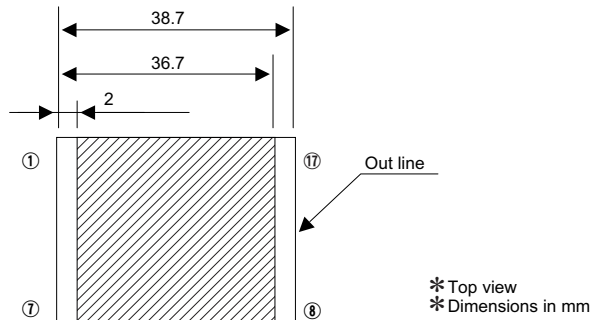

Fig.6.3 Prohibition area of pattern lay out
■ Avoid placing pattern layout in hatched area in Fig.6.3 to insulate between pattern and power supply.